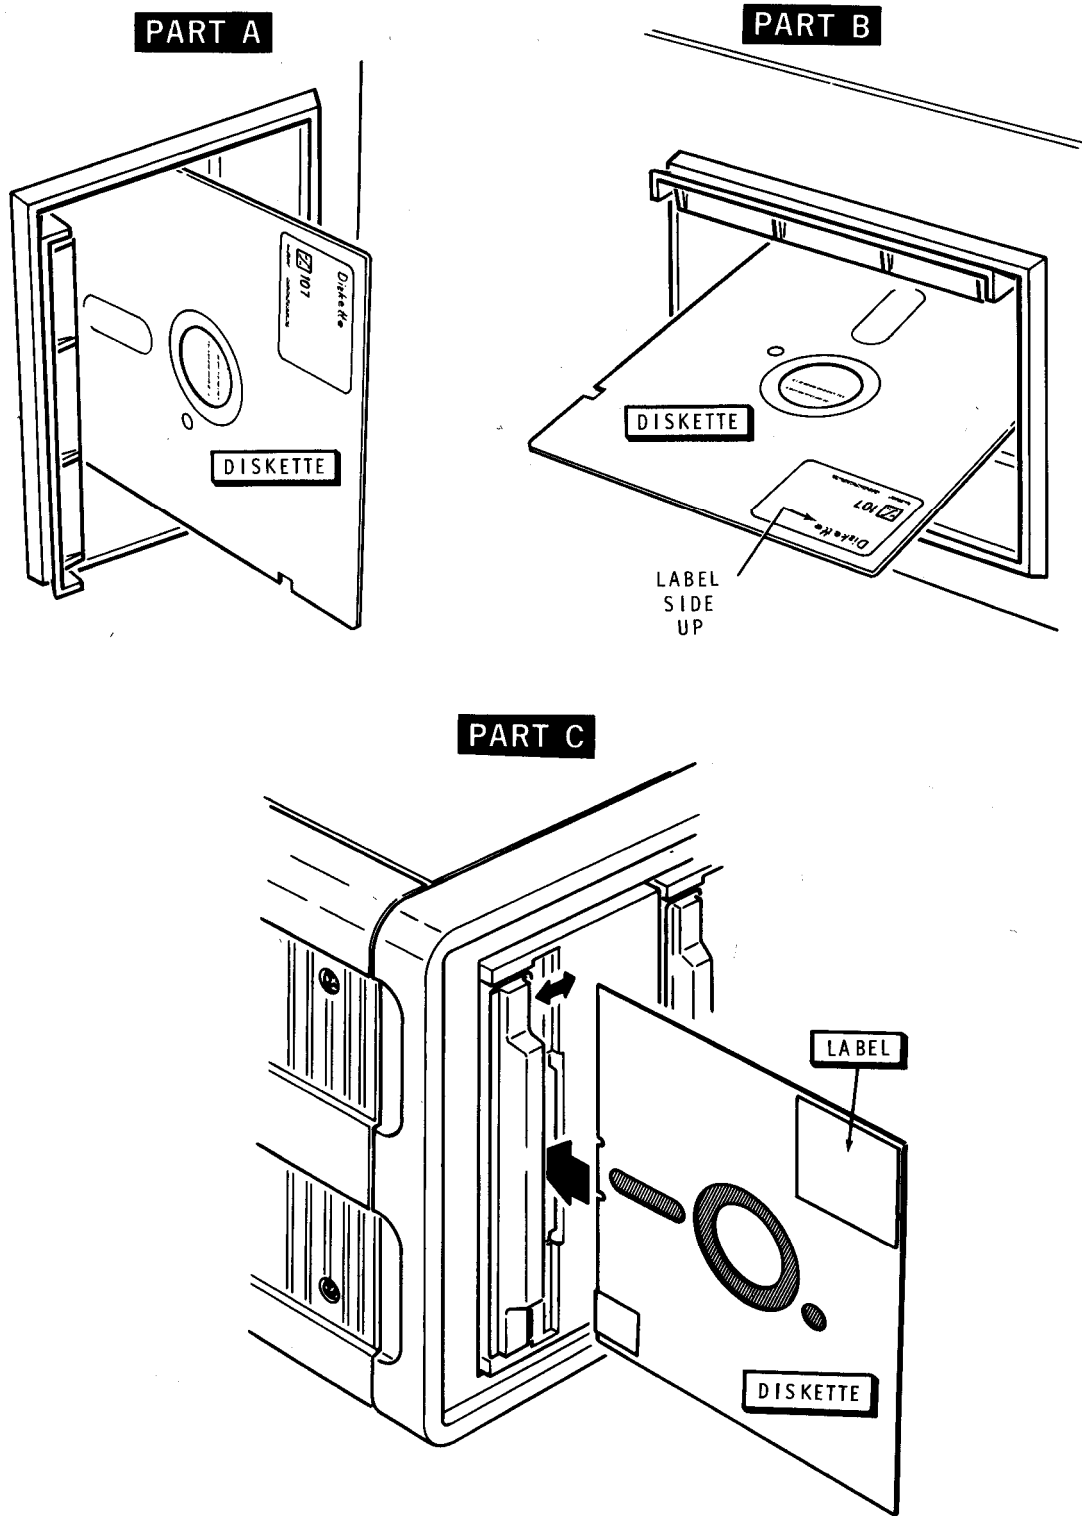

Figure 1-2
- ( ) 3. Install the distribution diskette in the disk drive unit that has been hardware configured as primary boot drive 0 (see Figure 1-2). Close the door of the drive unit after you have inserted the diskette.